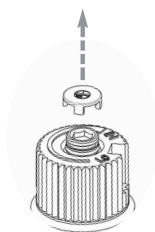

Fig. 1
13) Remove the black protection cap by hand from the hi-low knob (Fig.1).